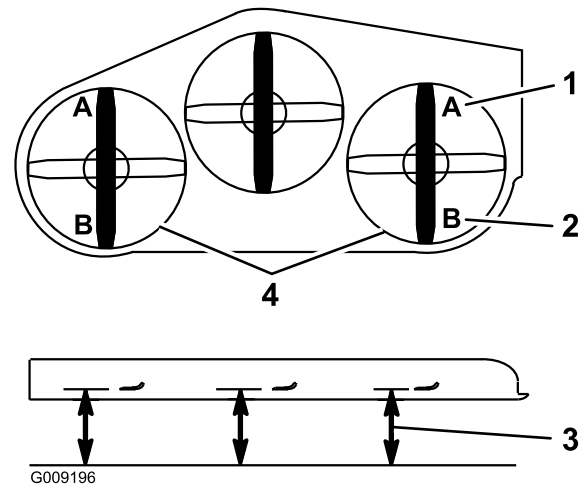

**Figure 87**
5. Push the deck-lift pedal all the way forward and the deck will latch at the 14 cm (5-1/2 inches) transport position (Figure 87).